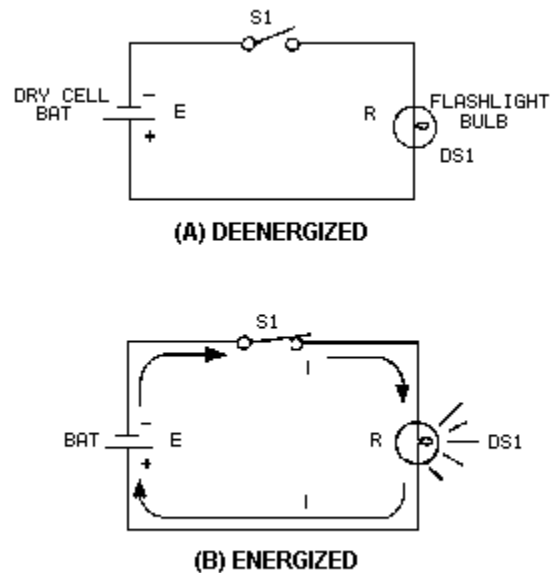

Figure 3-2.—Basic flashlight schematic.
The schematic in figure 3-2 represents a flashlight. View A of the figure shows the flashlight in the off or deenergized state. The switch (S1) is open. There is no complete path for current (I) through the circuit, and the bulb (DS1) does not light. In figure 3-2 view B, switch S1 is closed. Current flows in the direction of the arrows from the negative terminal of the battery (BAT), through the switch (S1), through the lamp (DS1), and back to the positive terminal of the battery. With the switch closed the path for current is complete. Current will continue to flow until the switch (S1) is moved to the open position or the battery is completely discharged.
- Q1. In figure 3-2, what part of the circuit is the (a) load and (b) source?
- Q2. What happens to the path for current when S1 is open as shown in figure 3-2(A)?
- Q3. What is the name given to the "picture" of a circuit such as the one shown in figure 3-2?
if any two quantities are known, the third one can be determined. Refer to figure 3-2(B), the schematic of the flashlight. If the battery (BAT) supplies a voltage of 1.5 volts and the lamp (DS1) has a resistance of 5 ohms, then the current in the circuit can be determined. Using this equation and substituting values: